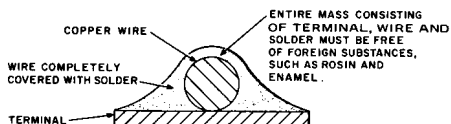

FIGURE 1. Cross Section of a Properly Soldered Connection
- 1.03 It is essential that the wire is connected so that it is in the proper position and rests firmly against the terminal. A properly soldered connection will have a definite, thin strip of solder on both sides of the wire to form a secure mechanical connection and a good electrical connection. See Figure 1.